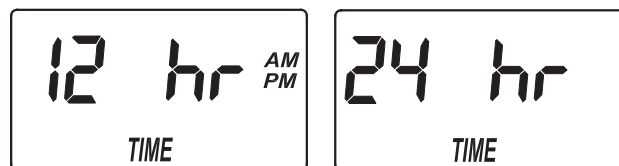

FIG. 27
1. Press and hold the PROGRAM button until the screen in Figure 23 is displayed. Once in this display, press the PROGRAM button three times, and one of the two displays in Figure 27 is shown.